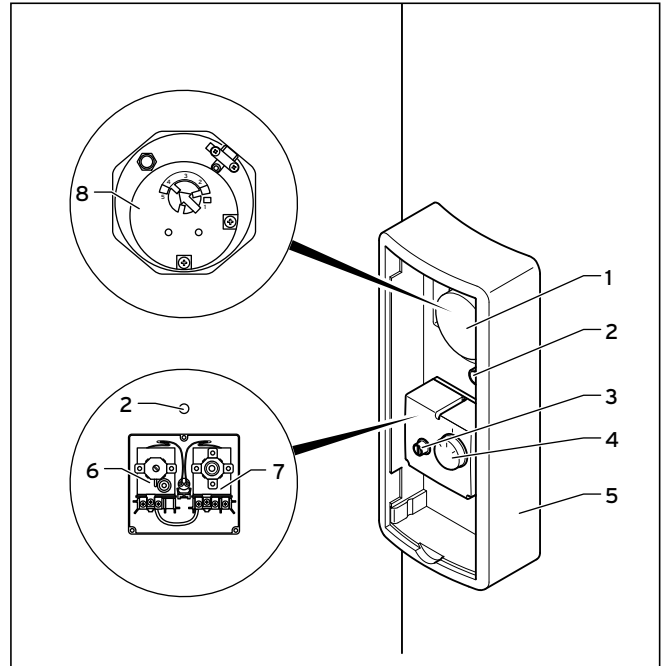

Fig. 5.7 Cylinder temperature control
- 1 Protective earth terminal (PE)
- 4 Neutral conductor terminal (N)
- 5 Outer conductor terminal (L)
Before wiring the control components, dismantle the casing (5) (→ fig. 5.7) to facilitate work on the components. When reinstalling the casing, use the cutouts in the casings for routing the cables.
- Insert the VR 10 temperature sensor delivered with the Vaillant control centre into the immersion sleeve (**2 → fig. 5.7**) for the reheating circuit (NTC).
- Dismantle the cover of the cylinder thermostat (**7 → fig. 5.7**).